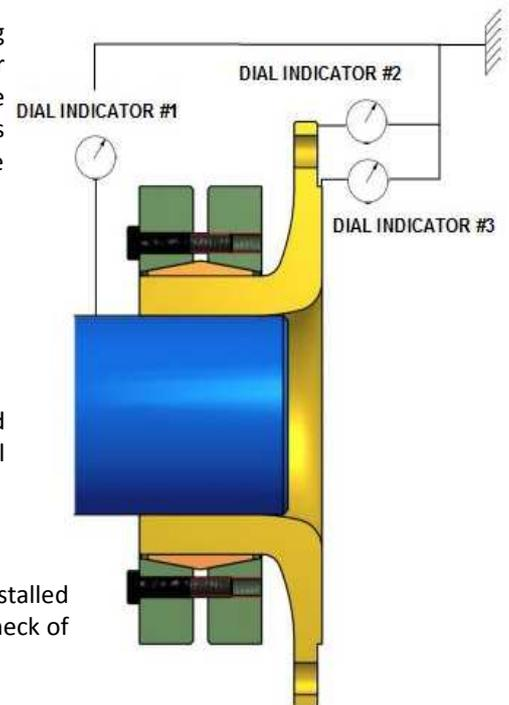

Figure 6. Coupling half installed (MAV 2008 tightened) – check of runout
7. Using dial indicators, check flange runout as illustrated in figure 6.